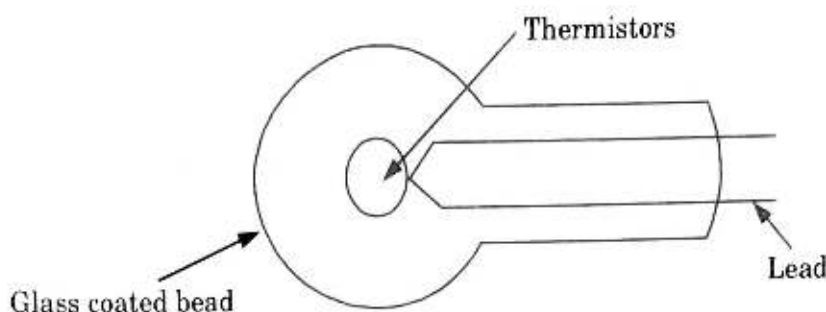

Fig. 5.8.1. Schematic of a thermistor.
7. Thermistors are available in the form of a bead (pressed disc), probe or chip. Fig. 5.8.1 shows the construction of a bead type thermistor.